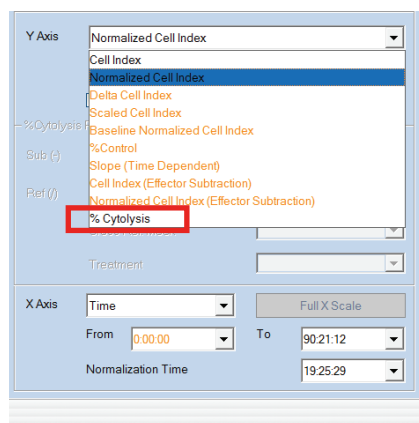

Figure 7. Select **% Cytolysis** from the Y Axis drop-down menu.
2. From the Y Axis drop-down menu, select **%Cytolysis** (Figure 7).